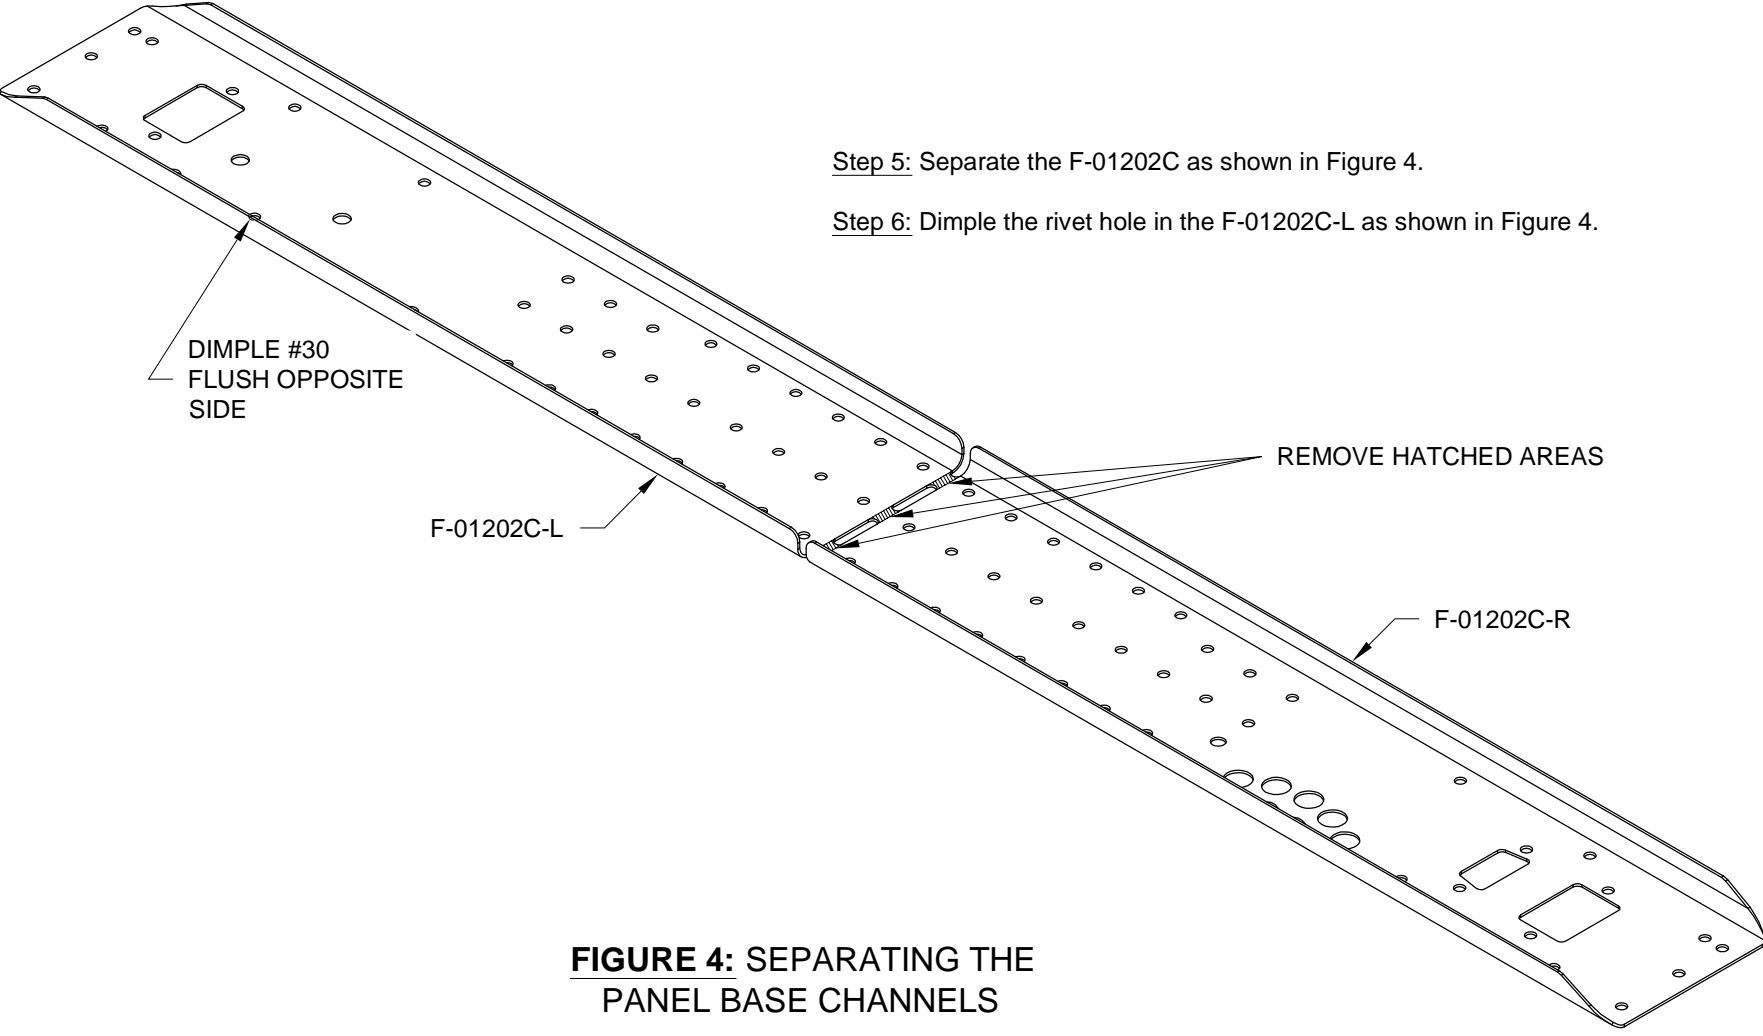

FIGURE 4: SEPARATING THE PANEL BASE CHANNELS
Step 5: Separate the F-01202C as shown in Figure 4.
Step 6: Dimple the rivet hole in the F-01202C-L as shown in Figure 4.